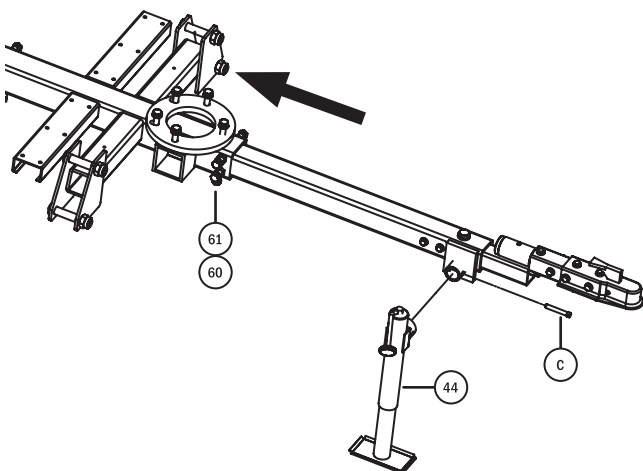

Fig. 7
Move the Stabilizer Frame Base (41) until it contacts the Trailer Frame as shown in Fig. 7. Secure it in place by first loosening the twelve Jamb Nuts (61), then tightening the twelve
Clamping Bolts (60) between 100 and 120 ft-lbs, and locking the bolts in place by tightening the twelve Jamb Nuts (61). Next, with someone pushing downward on the back of the Trailer Frame, lift the Tow Bar and install the Swivel Jack (44) in position and lock in place using the Swivel Jack Clevis (C in Fig 7).